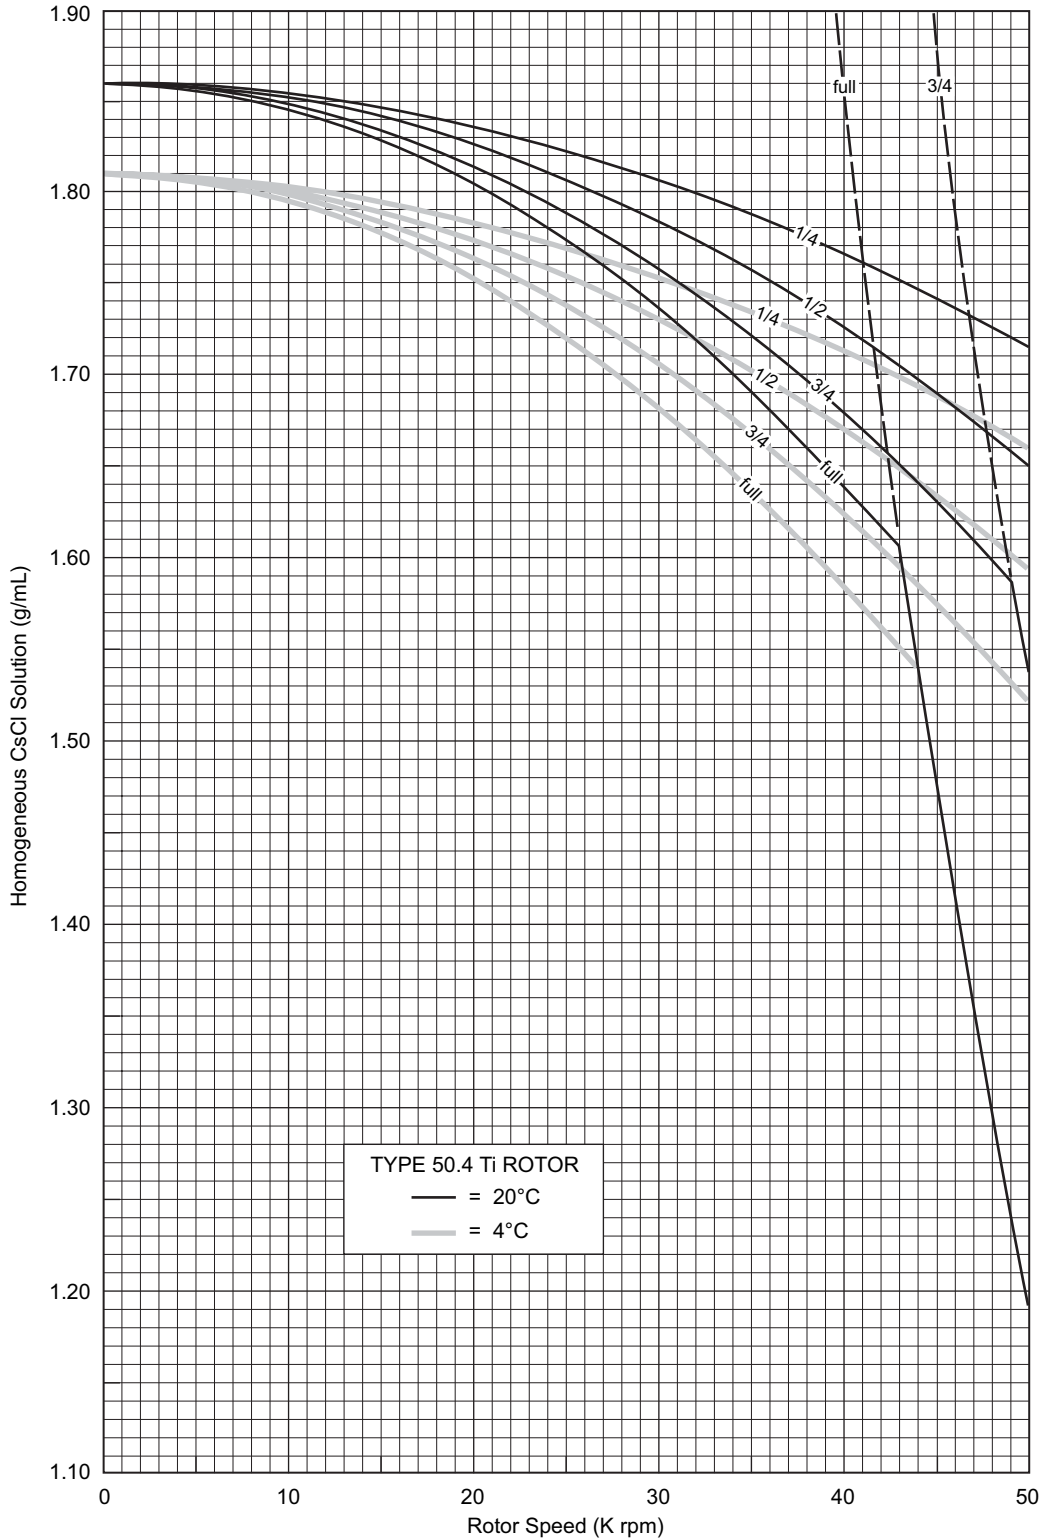

Figure 1A. Precipitation Curves for the Type 50.4 Ti Rotor (Outer Row).
Rotor speed is used to control the slope of a CsCl density gradient, and must be limited so that CsCl precipitation is avoided. Speed and density combinations that intersect on or below the curves in Figures 1A and 2A ensure that CsCl will not precipitate during centrifugation in the Type 50.4 Ti rotor. Curves are provided at two temperatures: 20°C (black curves) and 4°C (gray curves).
The reference curves in Figures 1B and 2B show gradient distribution at equilibrium. Each curve is within the density limits allowed for the Type 50.4 Ti rotor: each curve was generated for a single run speed using the maximum allowable homogeneous CsCl densities (one for each fill level) that avoid precipitation at that speed. (The gradients in Figures 1B and 2B can be generated from step or linear gradients, or from homogeneous solutions. But the total amount of CsCl in solution must be equivalent to a homogeneous solution corresponding to the concentrations specified in Figures 1A and 2A.) Figures 1B and 2B can also be used to approximate the banding positions of sample particles.
For example, a *half-filled* tube of 1.64-g/mL homogeneous CsCl solution at 20°C may be centrifuged at 50 000 rpm (see Figures 1A and 2A). The same solution in a *three-quarter-filled* tube may be centrifuged no faster than 44 000 rpm, or 48 000 rpm if tubes are centrifuged in the inner row *only*. (Gradient curves not shown in Figures 1B and 2B can be interpolated.) A tube *full* of the 1.64-g/mL CsCl solution may be centrifuged no faster than 40 000 rpm.
1. In Figure 1A (outer row), find the curve that corresponds to the required run temperature (20°C) and fill volume (full). The maximum allowable rotor speed is determined from the point where this curve intersects the homogeneous CsCl density (45 000 rpm).
4. From Figure 1A, select the maximum homogeneous CsCl density (in this case, 1.74 g/mL) that corresponds to the temperature and run speed established above. These parameters will provide the particle-banding pattern selected in Step 2.
Figure 1B. CsCl Gradients at Equilibrium for the Type 50.4 Ti Rotor (Outer Row). Centrifugation of homogeneous CsCl solutions at the maximum allowable speeds (from Figure 1A) results in gradients presented here.
Figure 2B. CsCl Gradients at Equilibrium for the Type 50.4 Ti Rotor (Inner Row). Centrifugation of homogeneous CsCl solutions at the maximum allowable speeds (from Figure 1A) results in gradients presented here.